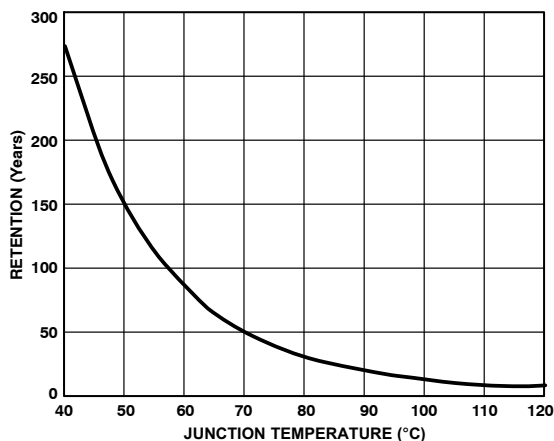

Figure 15. Typical EEPROM Memory Retention
- Retention lifetime equivalent at junction temperature (T_J) = 55°C as per JEDEC Std. 22 method A117. Retention lifetime based on activation energy of 0.6 V derates with junction temperature as shown in Figure 15.
Retention quantifies the ability of the memory to retain its programmed data over time. The EEPROM in the ADM1026 has been qualified in accordance with the formal JEDEC Retention Lifetime Specification (A117) at a specific junction temperature ($T_J = 55^\circ\text{C}$) to guarantee a minimum of 10 years retention time. As part of this qualification procedure, the EEPROM memory is cycled to its specified endurance limit described above before data retention is characterized. This means that the EEPROM memory is guaranteed to retain its data for its full specified retention lifetime every time the EEPROM is reprogrammed. Note that retention lifetime based on an activation energy of 0.6 V derates with T_J , as shown in Figure 15.